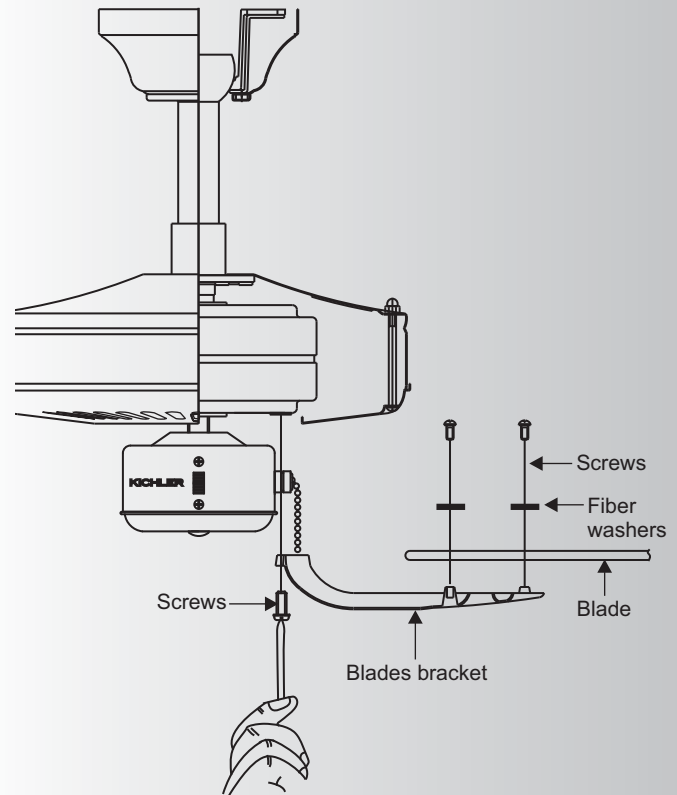

Fig. 14
Step 1. Attach the blade to the blade bracket using the screws and fiber washers as shown in Figure 14. Start screw into bracket. Repeat for the two remaining screws.